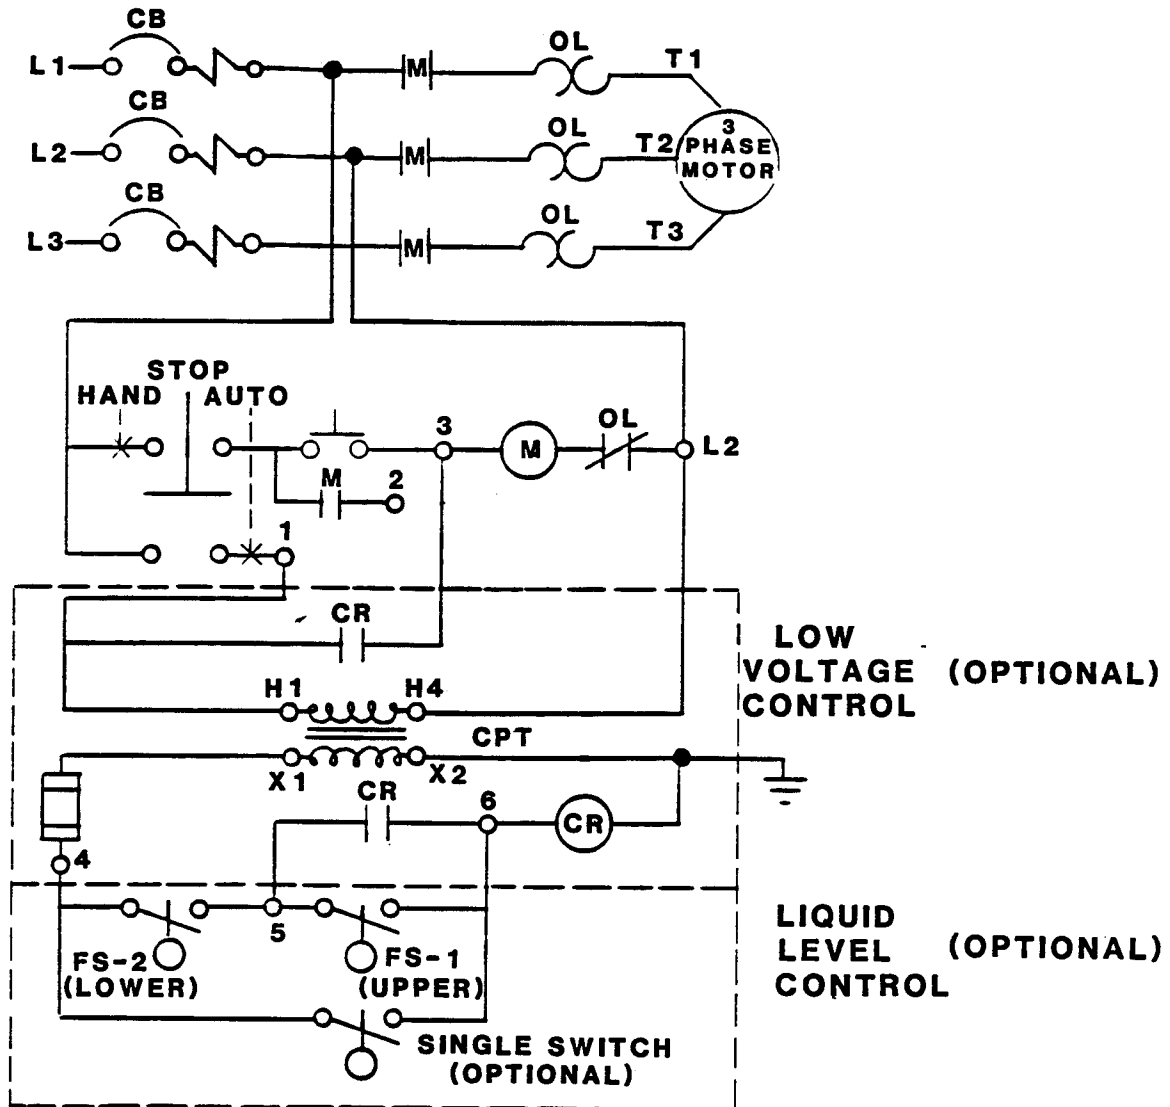

Figure 8. Magnetic Controller Elementary Diagram Based On Figure 7 on page B-14.
- a. Measure the incoming voltage across lines (1 & 2, 2 & 3, and 1 & 3.) while the pump is **operating at full capacity**. See Figure 7 on page B-14 or Figure 8 on page B-15..
Connect the pump power cable to the control box as shown in Figure 7 on page B-14 or Figure 8 on page B-15.. Use conduit or cable clamps to secure the power and accessory cables to the control box. Make certain that all connections are tight and that cable entry points are rainproof.